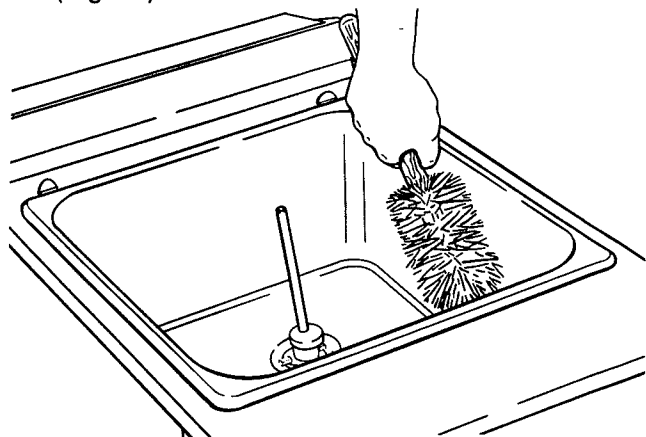

Figure 12. Sanitizing Hopper
- D. Clean sides of hopper, mix inlet regulator and underside of hopper cover using a sanitized soft bristle brush dipped in the sanitizing solution (Fig. 12).